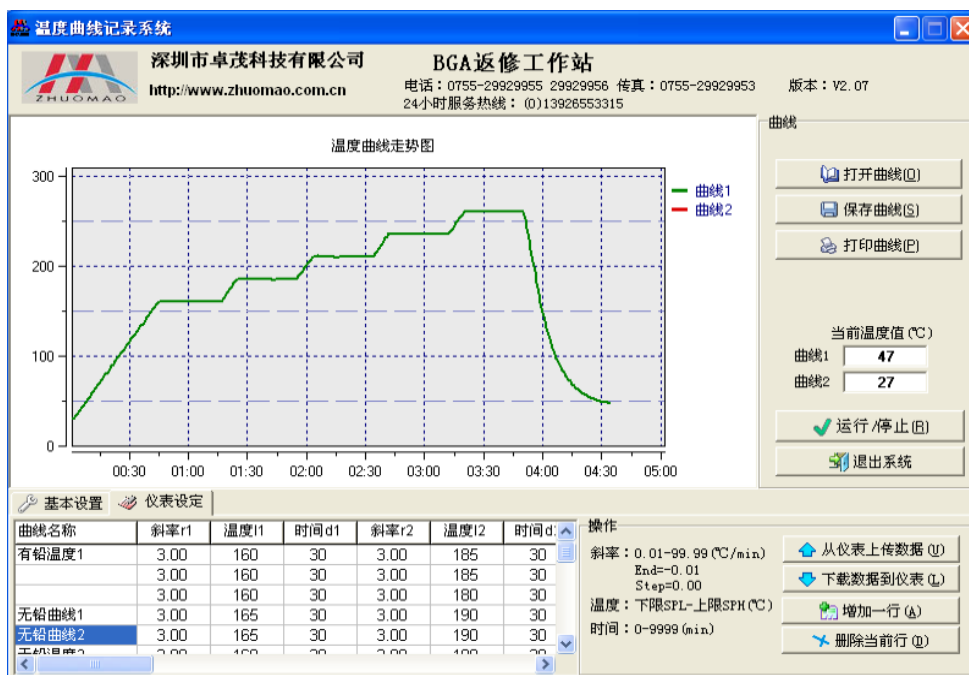

Figure8
(8)、Adjust Z-axis and Y-axis to make the nozzle on the top of the heating part, the height between them is 2~5mm.(Figure 8)